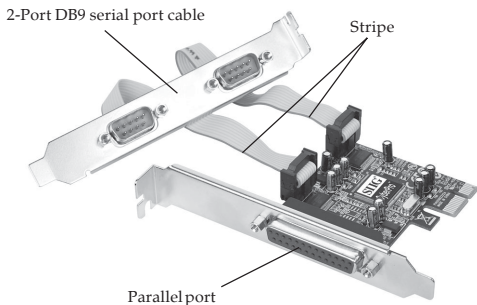

Figure 1: Board Layout
Note: When connecting the **2-Port DB9 serial port cable**, position the ribbon cable(s) so that the stripe is on the side closest to the parallel port. See **Figure 1**.
5. Connect the **2-Port DB9 (9-pin) serial port cable** connector now and remove another slot bracket cover from the system chassis. See **Figure 1** on the page 2 for more details.